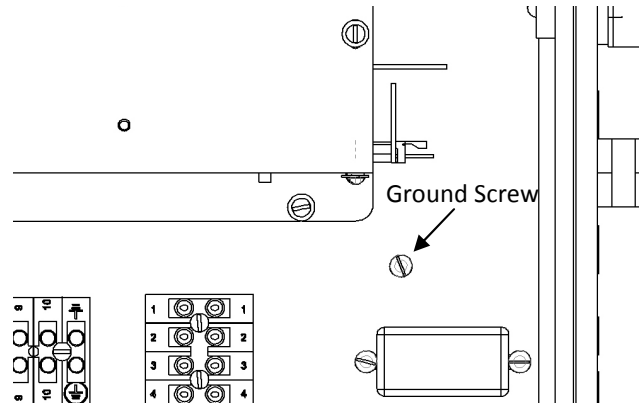

Figure 8: Ground Screw on Base Plate
3. If the flow switch is being used, connect the ground (green) lead from the flow switch to the ground screw on the base plate shown in Figure 8. The trigger signal (blue) lead should be connected to the trigger signal input on the JB-5 plug header that is connected to the PC board.